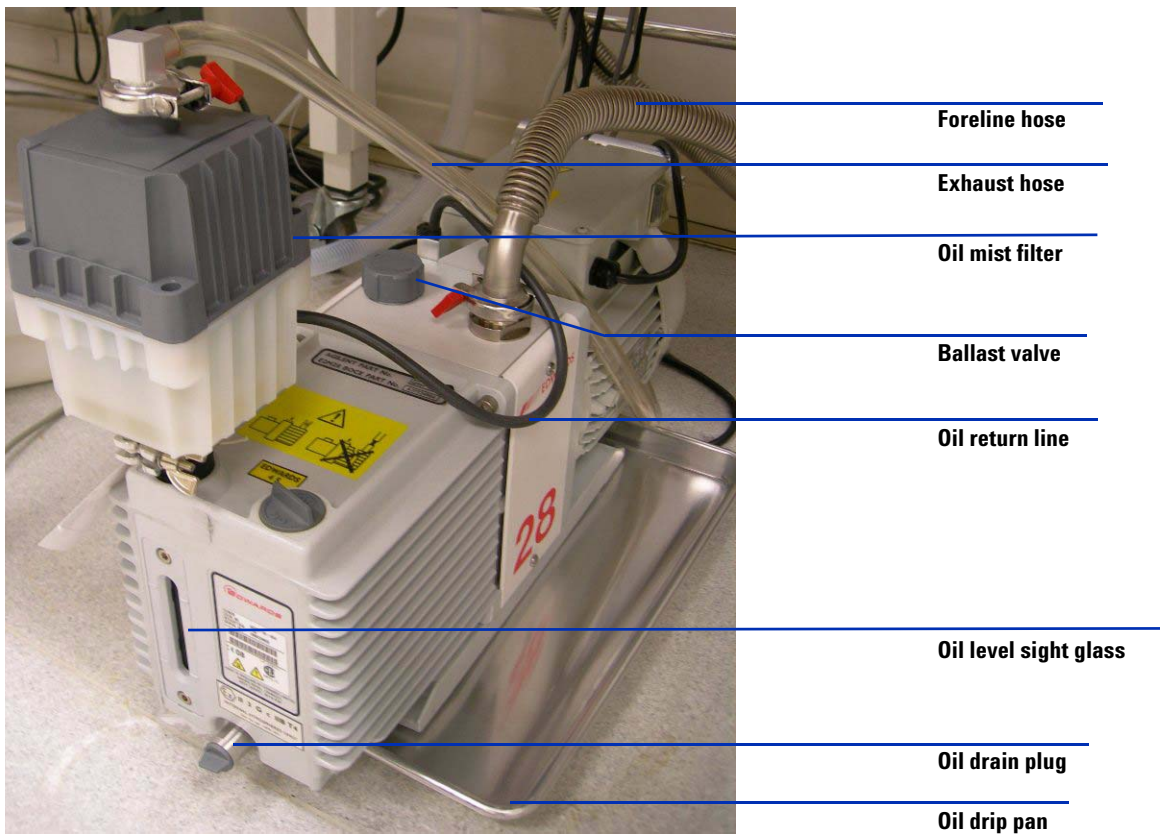

Figure 87 Rough pump.
- 3 Remove the fill cap on the rough pump (see Figure 87).
- 4 Add new pump fluid until the fluid level is near, but not over the maximum mark beside the fluid level window (see Figure 87).
- 3 Place a container under the drain plug of the rough pump (see Figure 87 on page 139).
- 4 Remove first the fill cap (see Figure 87 on page 139), then open the drain plug.
- 6 Pour in new pump fluid until the fluid level is near, but not above the maximum mark beside the fluid level window (see Figure 87 on page 139).